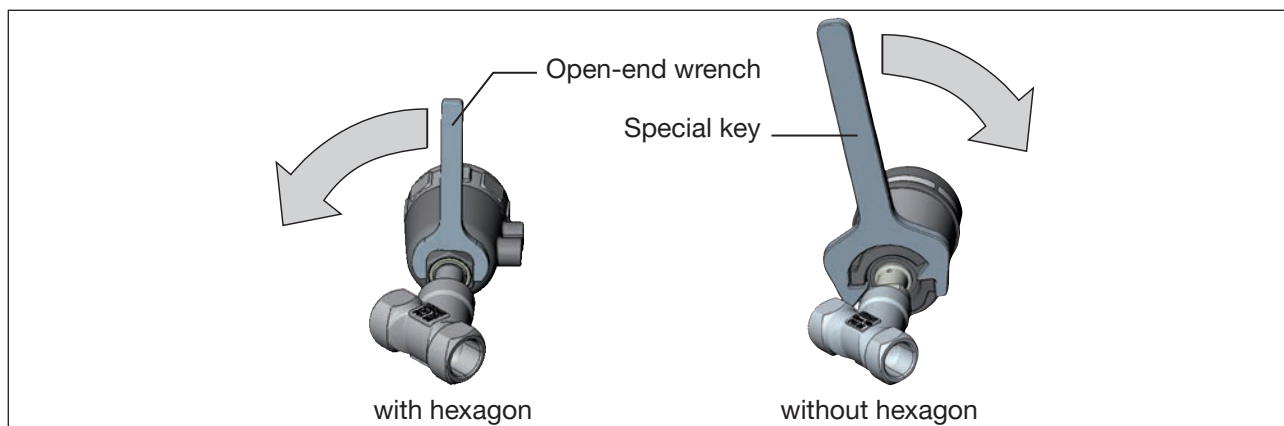

Figure 29: Rotating with special key / open-end wrench
- Rotate the actuator module in the specified direction only (see “Figure 29”) .